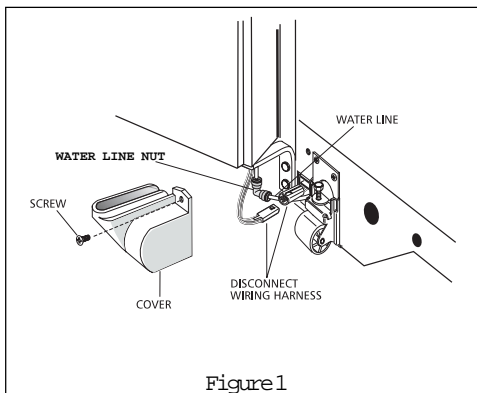

Figure 1
NOTE: If you purchased a refrigerator with a cool & clear™ Ice and Water filter, please read the following use and care information. This ice and water filter system filters water to your icemaker and water dispenser. It is located in the upper right back corner of the fresh food compartment (see Figure 1 on the following page).
Water supply does not need to be turned off, however, do not use ice and water dispenser while installing filter. Refer to Figure 1 as you complete these instructions.
Refer to Figure 1 as needed. It is not necessary to turn the water supply off to change the filter.
2. Hold filter cup firmly, and unscrew counter clockwise (Figure 1). (Some water could leak out as you remove cup. This is normal.) Filter cartridge should come down with cup. If cartridge remains in housing, pull down gently, while twisting filter back and forth.
4. The large o-ring (Figure 1) that seals the filter system sets in the o-ring groove down inside the cup. Should the o-ring fall out during filter cartridge replacement, simply place it back in the groove prior to screwing the cup back in place. If the o-ring becomes damaged, you will need to order one from the Consumer Assistance Center.
10. Check for leaks. Open refrigerator door. Wipe any water drops from the filter cup. Run a glass of water. If there is a leak, unscrew filter cup, and reinsert the filter cartridge. Check placement of large O-ring (see Figure 1). Reinstall filter cup, making certain it is tightened completely.
2. Remove the wiring cover located over the lower hinge of the freezer door. The cover is held in place by a single screw. (Figure 1)